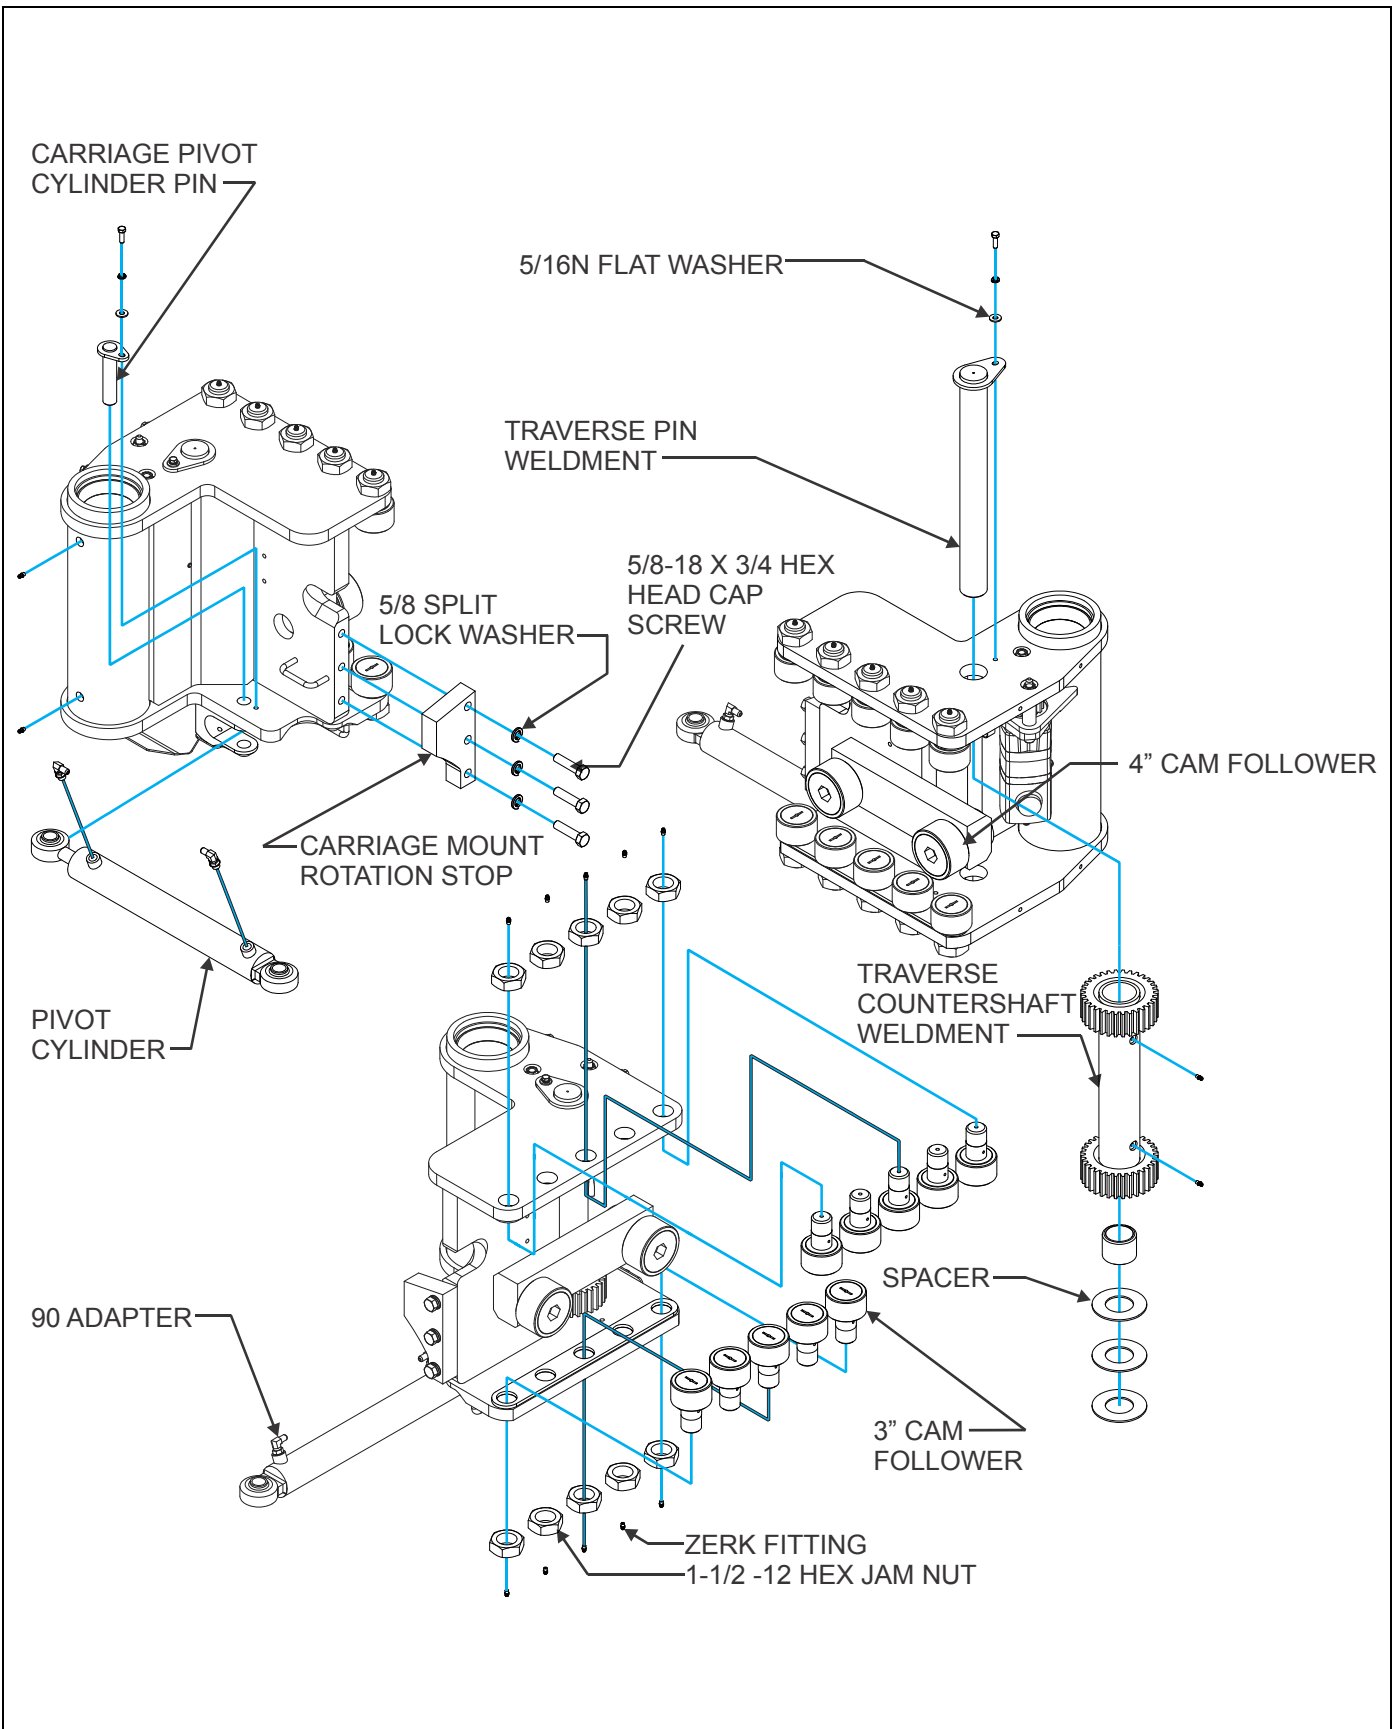

Figure 3-6: Carriage Assembly (1 of 2)
7. Remove and mark hoses to pivot cylinder (See Figure 3-6).
8. Remove carriage pivot cylinder pin (See Figure 3-6) and remove cylinder.
3. Mark and unhook hydraulic hoses (2). Cap and plug cylinder and hose lines.
4. Remove carriage pivot cylinder pin (See Figure 3-6).
2. Remove the mounting hardware for the traverse pin weldment (See Figure 3-6).
2. Remove and replace failed cam follower (See Figure 3-6).